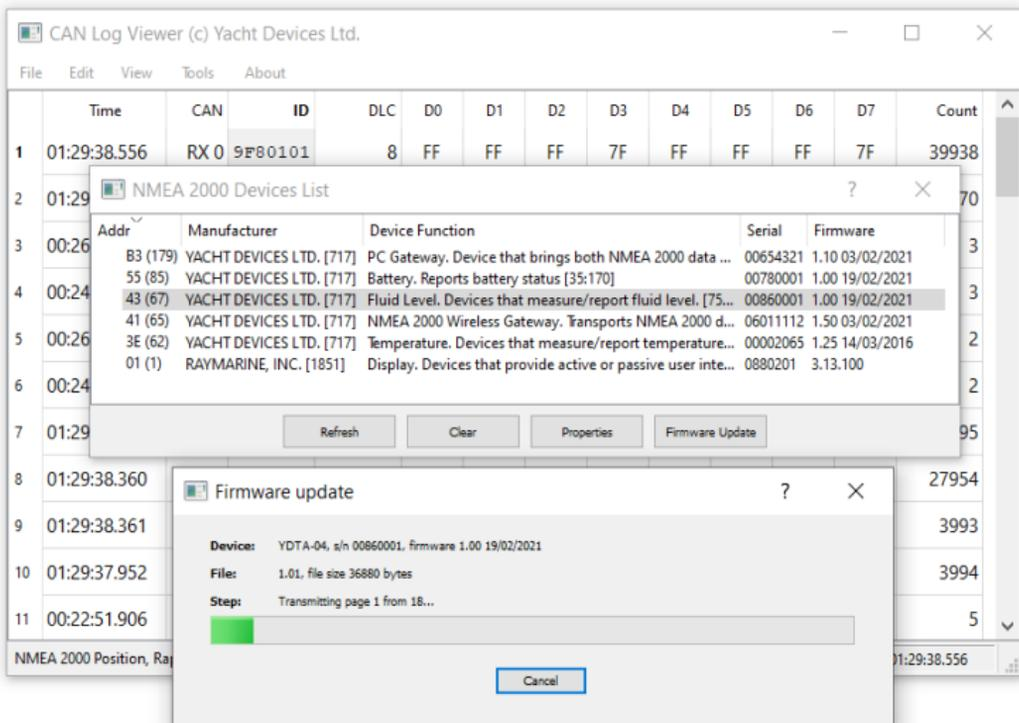

Figure 1. Firmware update with CAN Log Viewer
2. Click the «Refresh» button (see Figure 1 on the next page) in the opened window and wait for the Device to appear in the list.
The program below turns on the ballast pump (see Figure 1 in Section VII) if the heeling is above 20 degrees and if the tank on the relevant side is not 100% full. Please, refer to NMEA 2000 Bridge YDNB-07 manual for details.